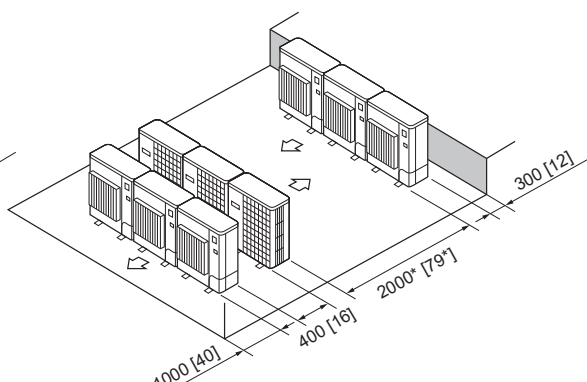

Fig. 2-17
- Multiple parallel unit arrangement (Fig. 2-17)